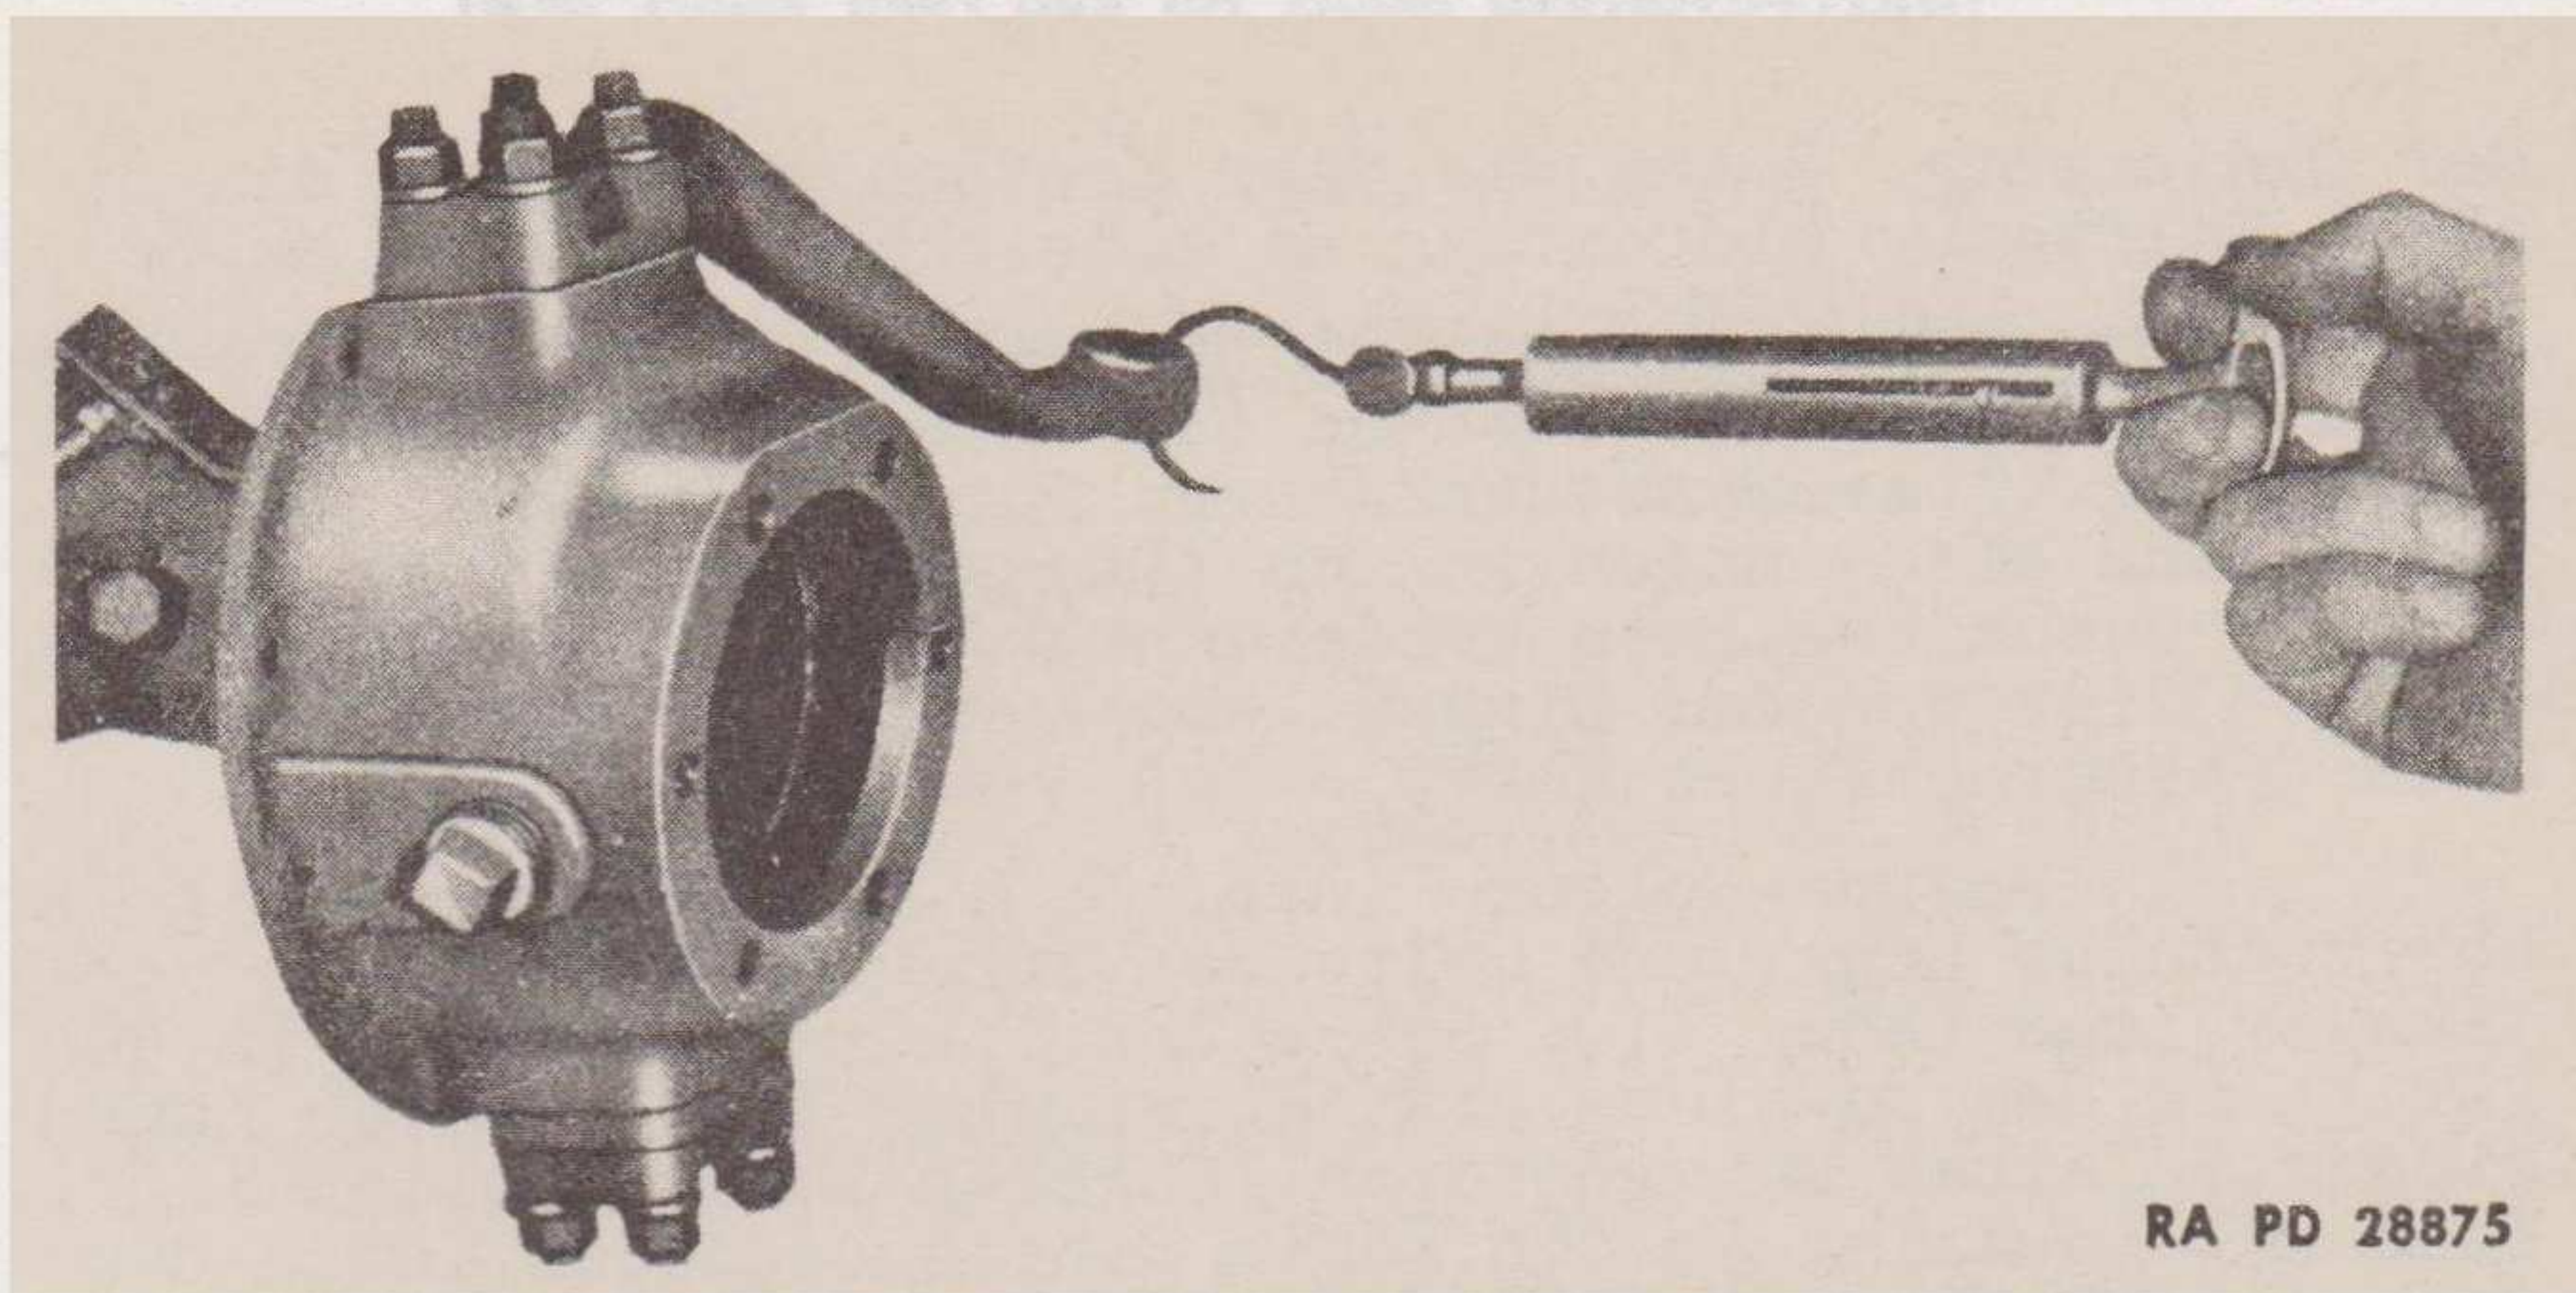

Figure 72 — Checking Tension of Spindle Housing
o. **Adjust Spindle Housing (fig. 72).** Check the tension of the spindle housing by hooking a scale to the end of the spindle arm. The tension should not be more than 6 pounds or less than 4 pounds. If the tension is over 6 pounds, shims must be removed from the spindle housing. If the tension is less than 4 pounds, shims must be added. When removing or adding shims, be sure the same thickness is removed from, or added to, both ends of the spindle housing. Remove, or add, shims until the correct tension is obtained.